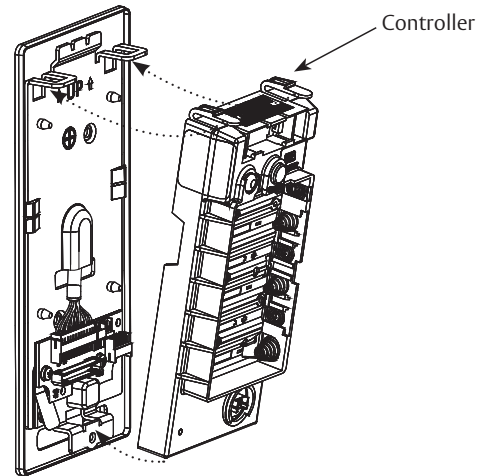

Fig. 24
- k. Secure 24-pin card reader connector. (Fig. 24)
- Secure mounting assembly while ensuring proper alignment of outside reader and tighten two (2) through-bolts on inside of door to secure reader. (Figure 24)
- a. Insert bottom tab of controller (make sure path is clear) into slot on mounting plate. (Fig. 24)